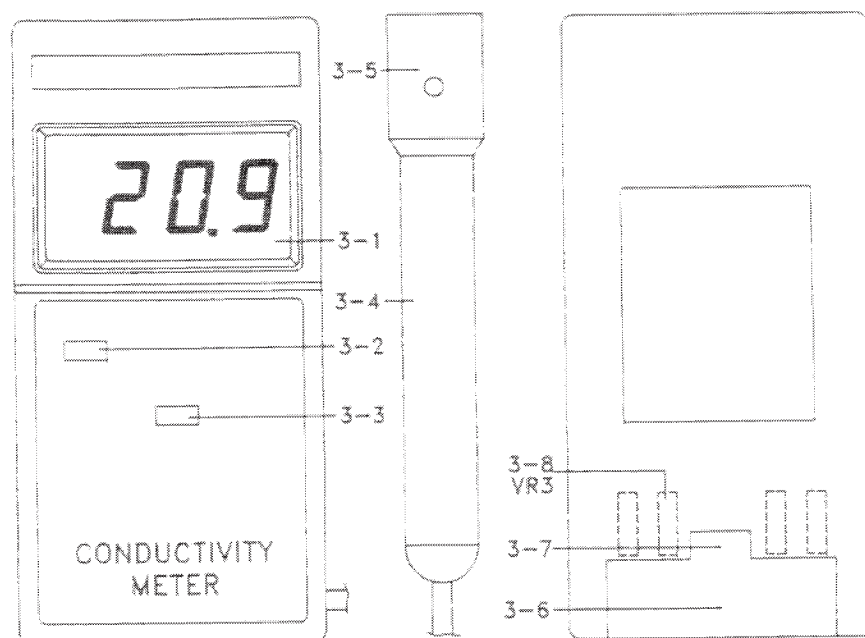

Fig. 1
- 1) Slide the " Off/On/Hold Switch " (3-2, Fig. 1) to the "On" position.
- 2) Slide the " Range Switch " (3-3, Fig. 1) to the " 199.9 uS ", " 1.999 mS ", " 19.99 mS " according the measurement requirement.
- 3) Hold the " Electrode Handle " (3-4, Fig. 1) by hand & let the " Conductivity Electrode " (3-5, Fig. 1) is immersed wholly into the measured solution, then the Display will show the conductivity values (uS, mS).
When make any measurement, if select the " On/Off/ Hold Switch " (3-2, Fig.1) to the " Hold " position will keep the data on the display. It will release the data hold function select the " On/Off/Hold Switch " to the " On " position again.
- 2) Slide the " Range Switch " (3-3, Fig. 1) to the " 1.999 mS " position.
- 3) Hold the " Electrode Handle " (3-4, Fig. 1) by hand & let the " Conductivity Electrode " (3-5, Fig. 1) is immersed wholly into the above " 1.413 mS Calibration Solution ", then adjust the " Calibration Adj. VR " (VR 3, ref. 3-8, Fig. 1) until the display show the value same as 1.413 mS exactly.
- 2) Loose the " Battery Cover Screw " (3-7, fig. 1), slide the " Battery cover " (3-6, Fig. 1) away from the instrument and remove the battery.